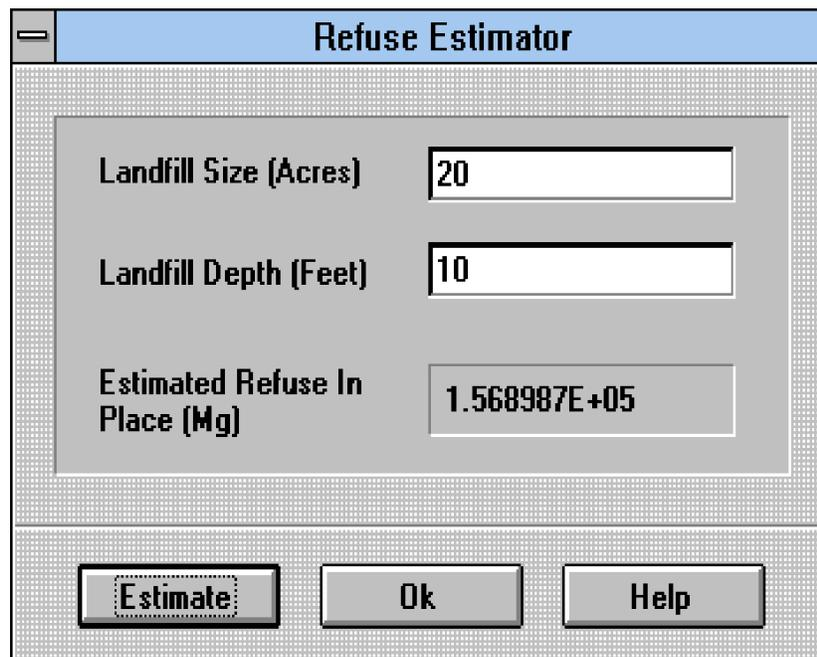

Figure 4-10. The Refuse Estimator utility dialog box
1. Select Refuse Estimator from the Utilities menu (Figure 4-10).